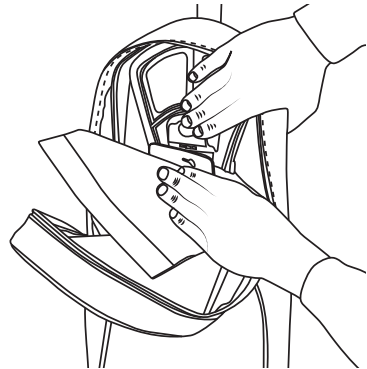

Fig. 9
2. Remove used bag by pressing the bag holder tab and pulling bag off vacuum (Fig. 9). Discard used bag.